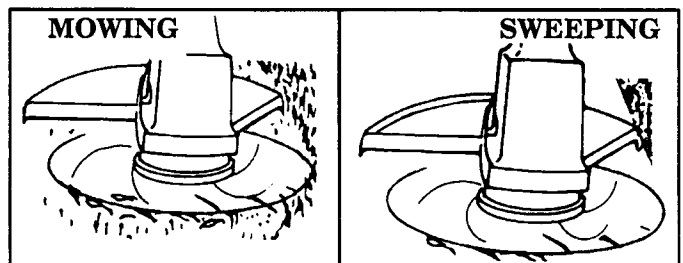

Figure 14
3. **MOWING** – Figure 14. Your trimmer is ideal for mowing in places conventional lawn mowers cannot reach. In the mowing position, keep line parallel to ground. Avoid pressing the head into ground as this can scalp ground and damage unit.
4. **SWEEPING** – Figure 14. The fanning action of the rotating line can be used for a quick and easy clean up. Keep line parallel to and above surfaces being swept and move the unit from side to side.